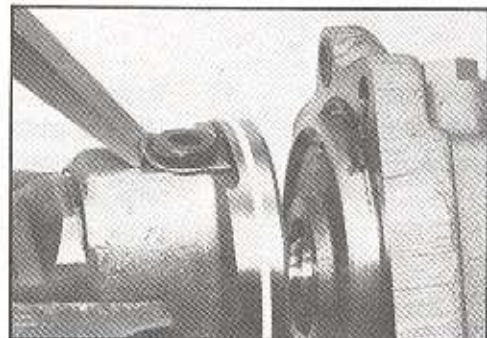

Figure 147
37. Stake (bend up) the radiused side of the locking washer (36A) firmly against one flat of hex head on locking screw (36). Remove subassembly from vise. SEE FIGURE 147.